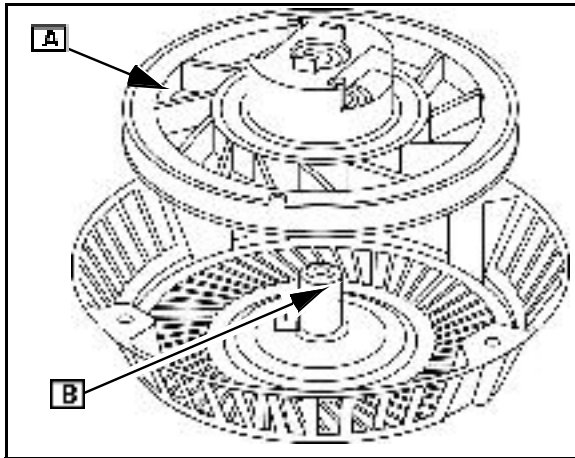

Fig. 7
2. Position pulley and coil spring assembly (A) over center pivot post (B) Fig. 7) in starter housing.